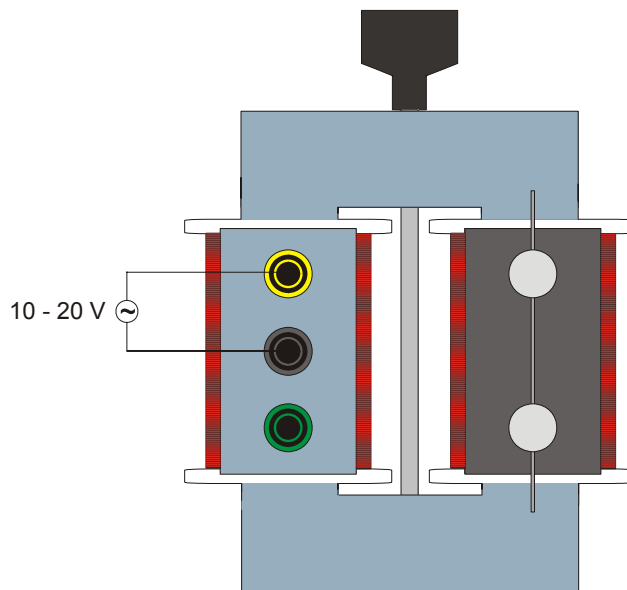

Fig. 1 Experiment set-up
- Assemble the transformer as shown in Fig. 1 and place it on a heat-resistant surface.